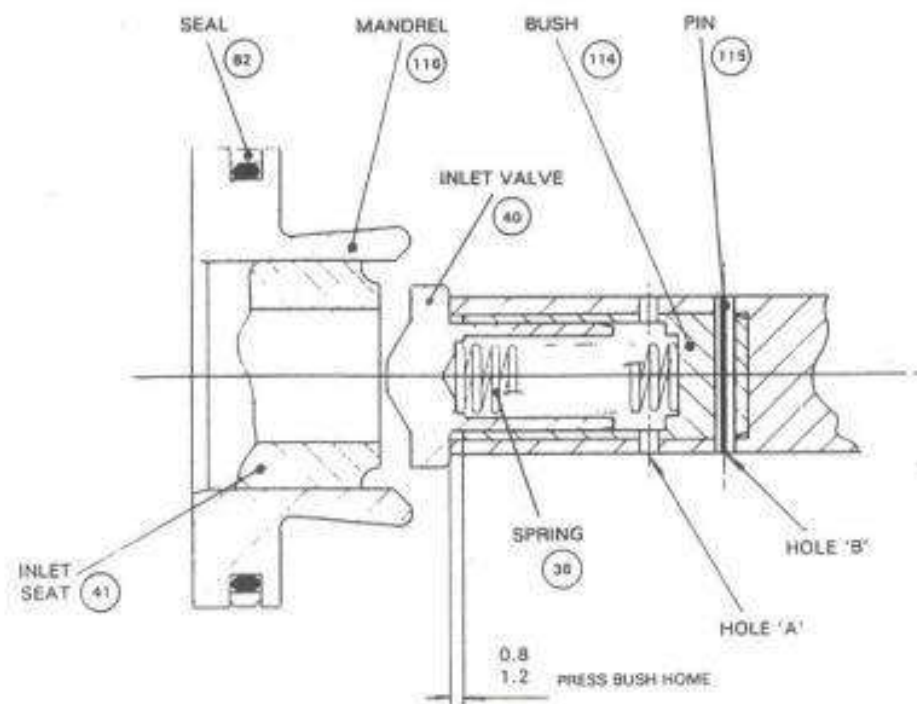
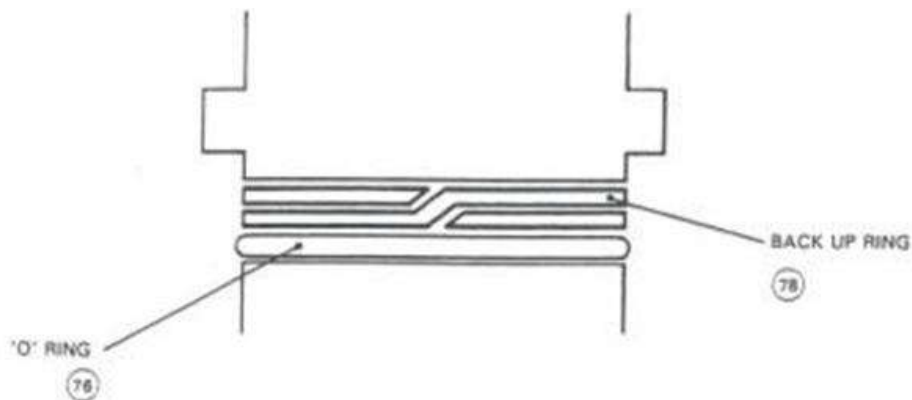

Fig 4.1 Mandrel Assembly
Fig 4.2 Inlet Valve Seat – Back Up Ring and 'O' Ring Fitting
During the pump overhaul procedures, reference should be made to the pump component and assembly drawings (Figs 4.1 to 4.6), which include associated parts lists, Also included are assembly drawings of the Mk 2 selector and safety relief valve (Figs 4.7 and 4.8).
In the following overhaul procedures, the item number that follows the description of a part refers to the assembly drawings (Figs 4.1 and 4.3 to 4.6).
- iv. Insert a Drift (part no 201-043) into the end of the Mandrel, from delivery end. Tap the end of the Drift to remove Collar (42), Inlet Seat (41), Spring (36), Valve 40, Mandrel Assembly (38) and Diaphragm (37) from the inlet end of the Barrel.
- v. Pull the Inlet Seat (41) from the Mandrel Assembly (38). Remove Valve (40) and Spring (36).
- vi. Using Extractor (part no 201-082), remove Diaphragm (37) from Mandrel Assembly (38). Inspect the Diaphragm for splits or holes, replace if necessary.
- vii. Inspect Spring (36), replace if necessary.
- viii. Inspect the seating faces of the Valve (40) and Seat (41). If either is badly pitted, chipped or unevenly worn, it must be replaced.
- ix. Inspect the bore of Bush (114).. It should be noted that if the bore is worn it will prevent Valve (40) from shutting smoothly and squarely onto the Seat(41) and must be replaced if necessary. The procedure for replacing the Bush is as follows:
- a. Remove the Pin (115).
- b. Screw an M12 tap into the Bush (114) until it bottoms.
- c. Hold end of tap in a vice and gently tap the face of Mandrel (116) with a nylon mallet, until the Bush is removed.
- e. Using a 1.9 mm diameter bit, drill through 6 holes in Mandrel through wall of Bush (see Fig 4.1 - holes A).
- f. Using a 1.9 mm diameter bit, drill through hole in Mandrel, right through Bush (see Fig 4.1 - holes B).
- g. Using a flat punch, refit Pin (115) through Mandrel and Bush.
- xi. Inspect Seal (82 - Fig 4.1). If it is damaged, replace as follows:
- xii. Place Valve (40) and Spring (36) into Bush (114).
- xiii. With reference to Fig 4.2, fit Back Up Ring (78) and 'O' ring (76) to Seat (41), and grease both. Ensure Back Up Ring is fitted as shown.
- xiv. Push and turn Seat (41) anti-clockwise into the Mandrel Assembly